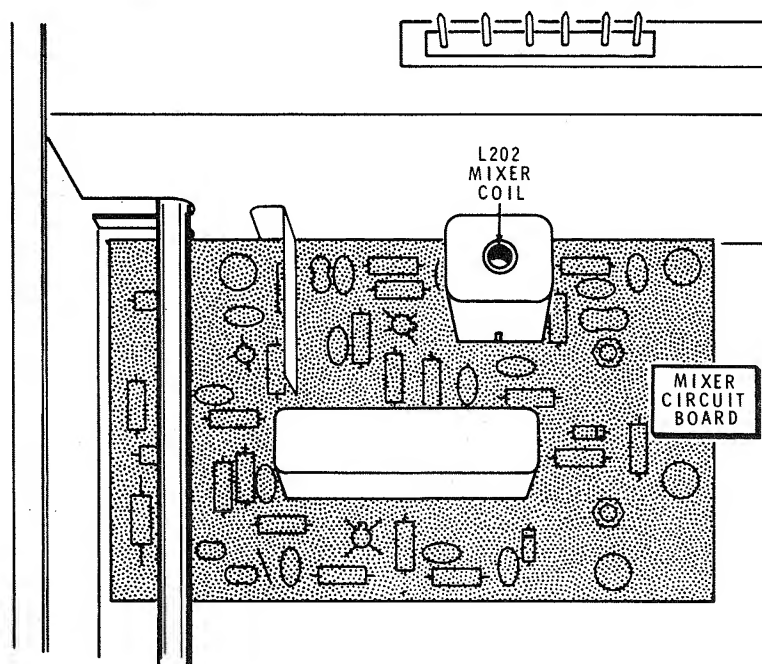

Figure 21
- ( ) Refer to Figure 21 and adjust mixer coil L202 for a maximum meter reading.